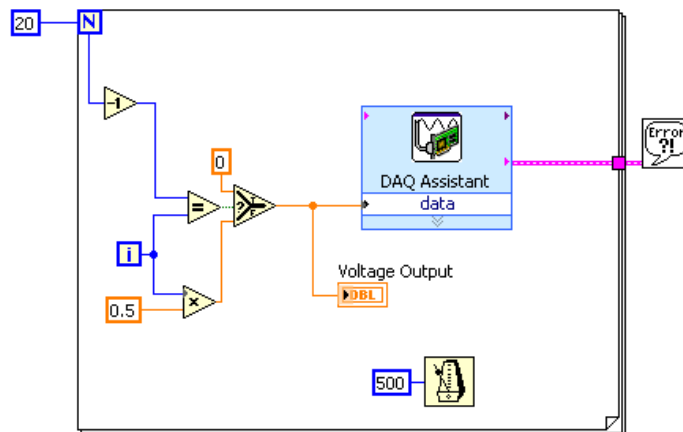

Figure 10.17
2. Modify the block diagram as shown in Figure 10.17.